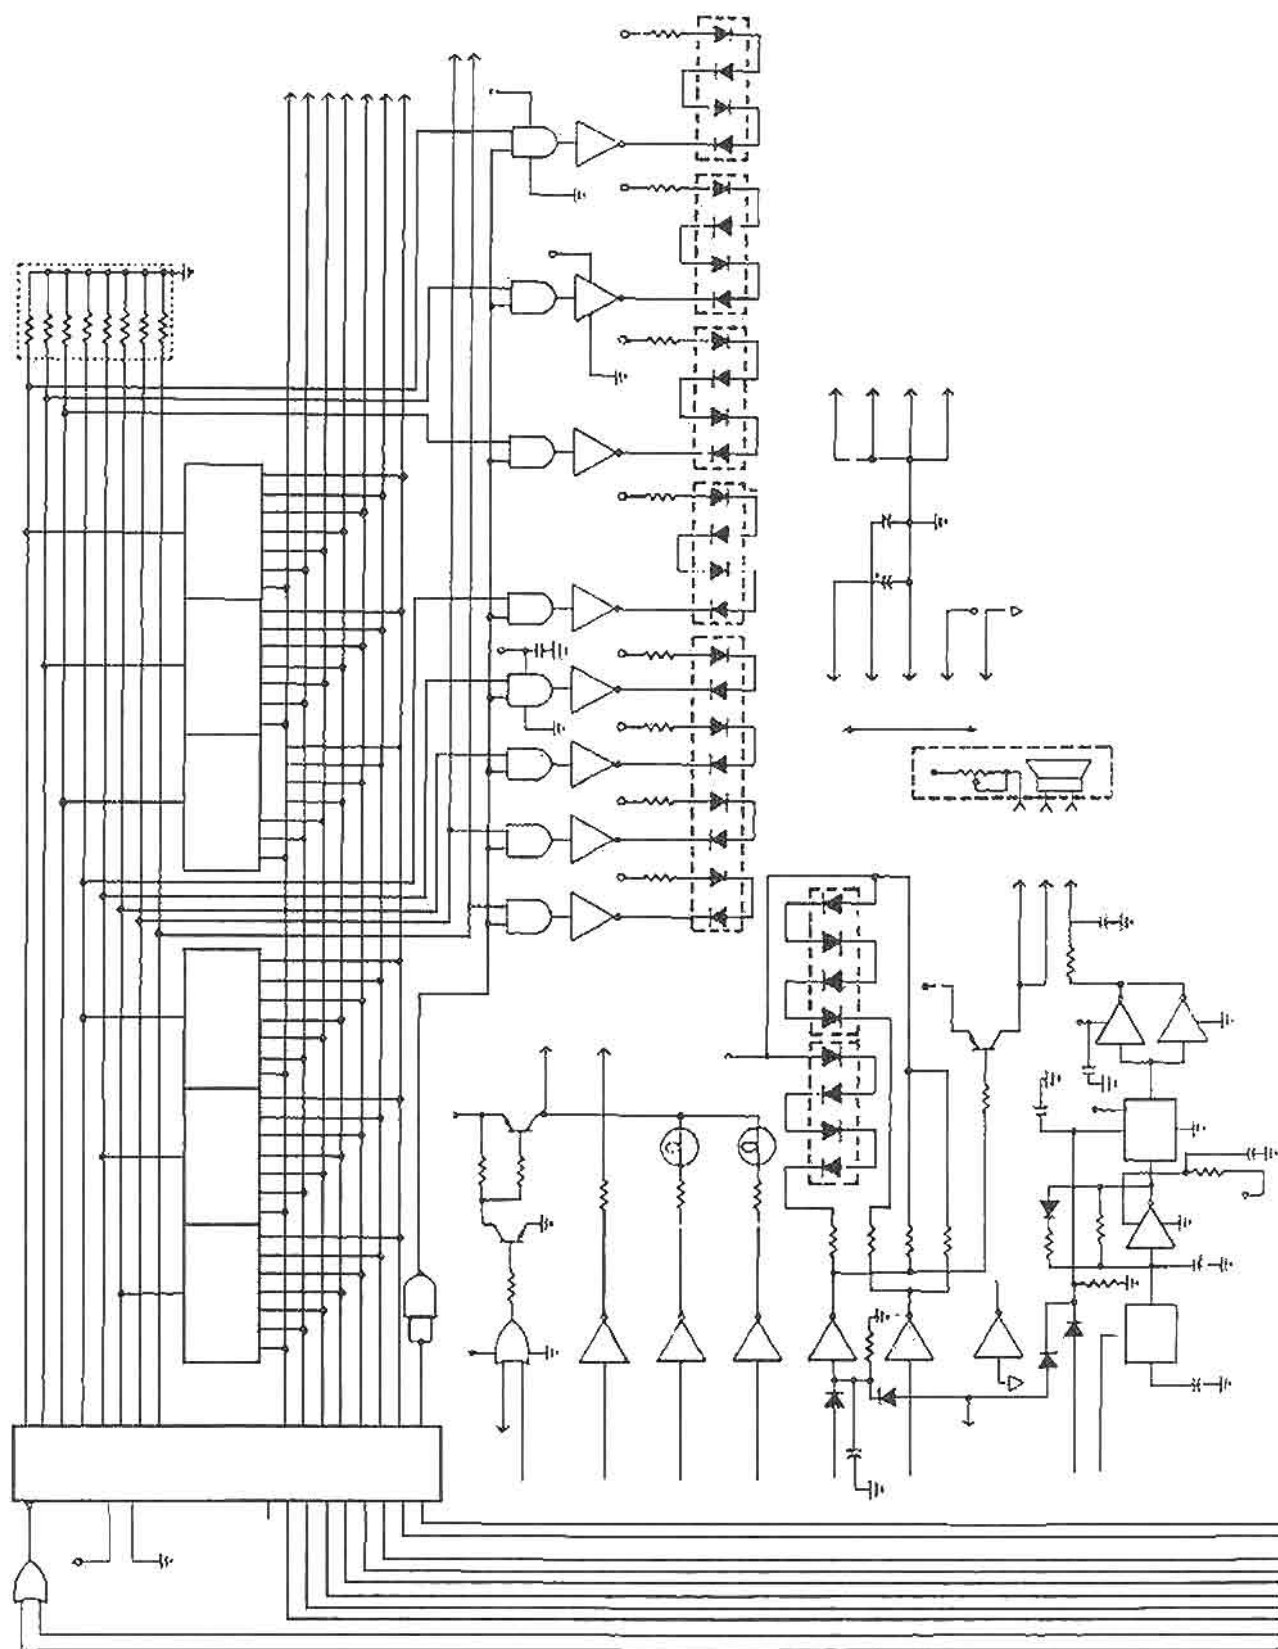

Figure 4-9. Monopolar display/control PCB schematic.
- (2) Monopolar display/control PCB schematics — figures 4-9 and 4-10.